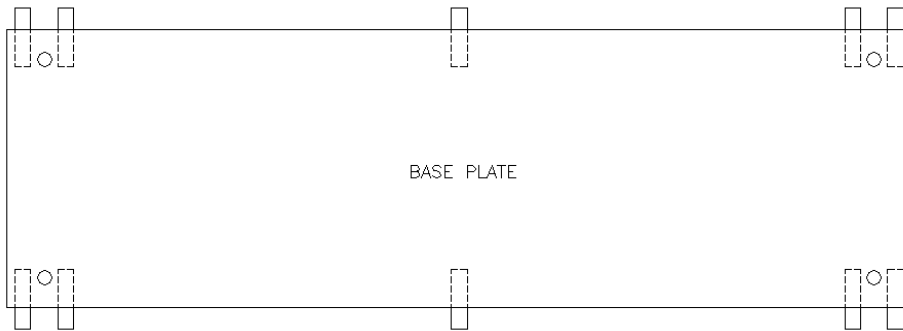

Figure 6-3: Wedge Locations
3. Shims/wedges should be placed on the subbase, as shown in **Figure 6-3**. Use 2 to 3 per stack to obtain desired gap between baseplate and sub-base. Normal gap is 1" to 1-1/2".